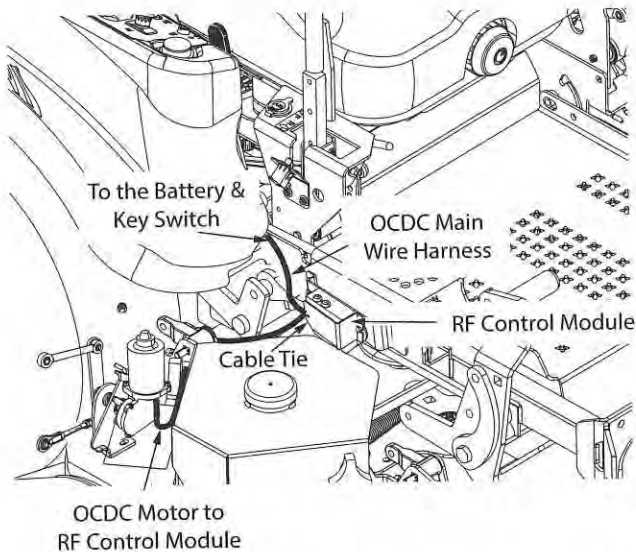

Figure 3-22. E-OCDC Wire Harness Installation
4. Using a cable tie, retain the wires from the RF control module to the hole in the RF control module guard. See Figure 3-22.
5. Locate the "A" terminal on the key switch and install the green wire from the E-OCDC harness to the key switch. See Figure 3-22.
6. Plug the EOCD main wire harness into the RF control module. See Figure 3-22. DO NOT plug the EOCD motor harness into the RF control module at this time, this may cause movement of the linkages.